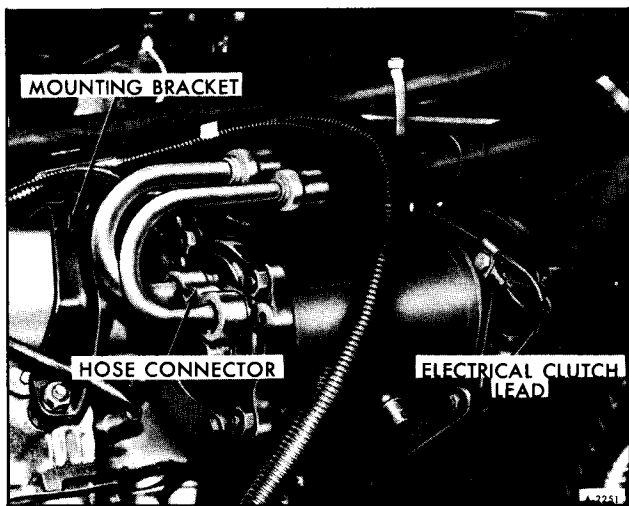

Figure 32—Compressor Installation
3. Remove connector attaching bolt and hose connector (figure 32). Seal connector outlets.
4. Disconnect electrical lead to clutch actuating coil (figure 32).